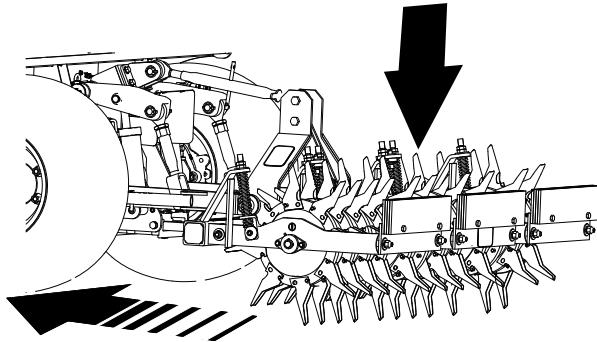

Figure 23
2. With 3-point or remote-hydraulics control of the traction unit, slowly lower the aerator while the traction unit is slowly moving forward (Figure 23).